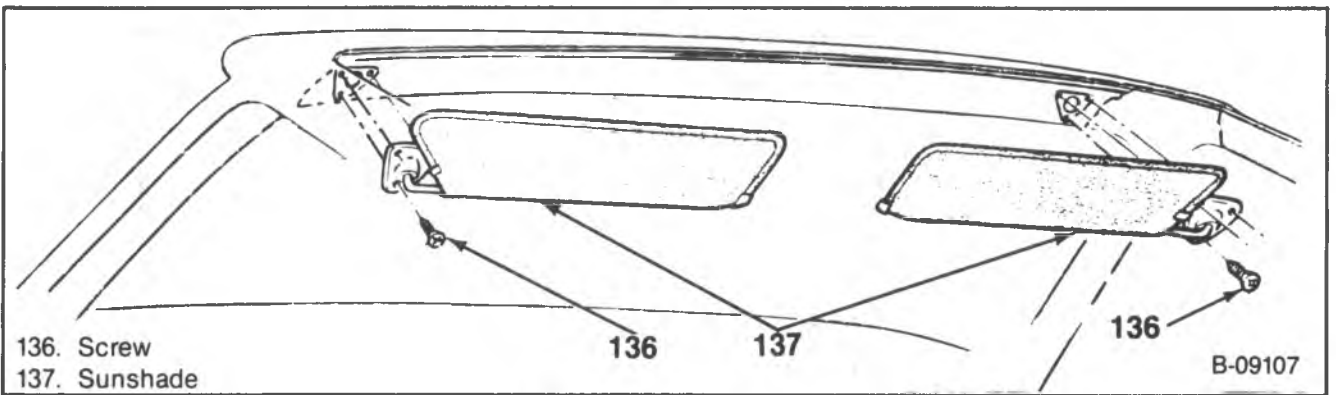

Figure 47 — Sunshade
3. Sunshade screws and the sunshade (figure 47).
12. Sunshade and screws (figure 47).